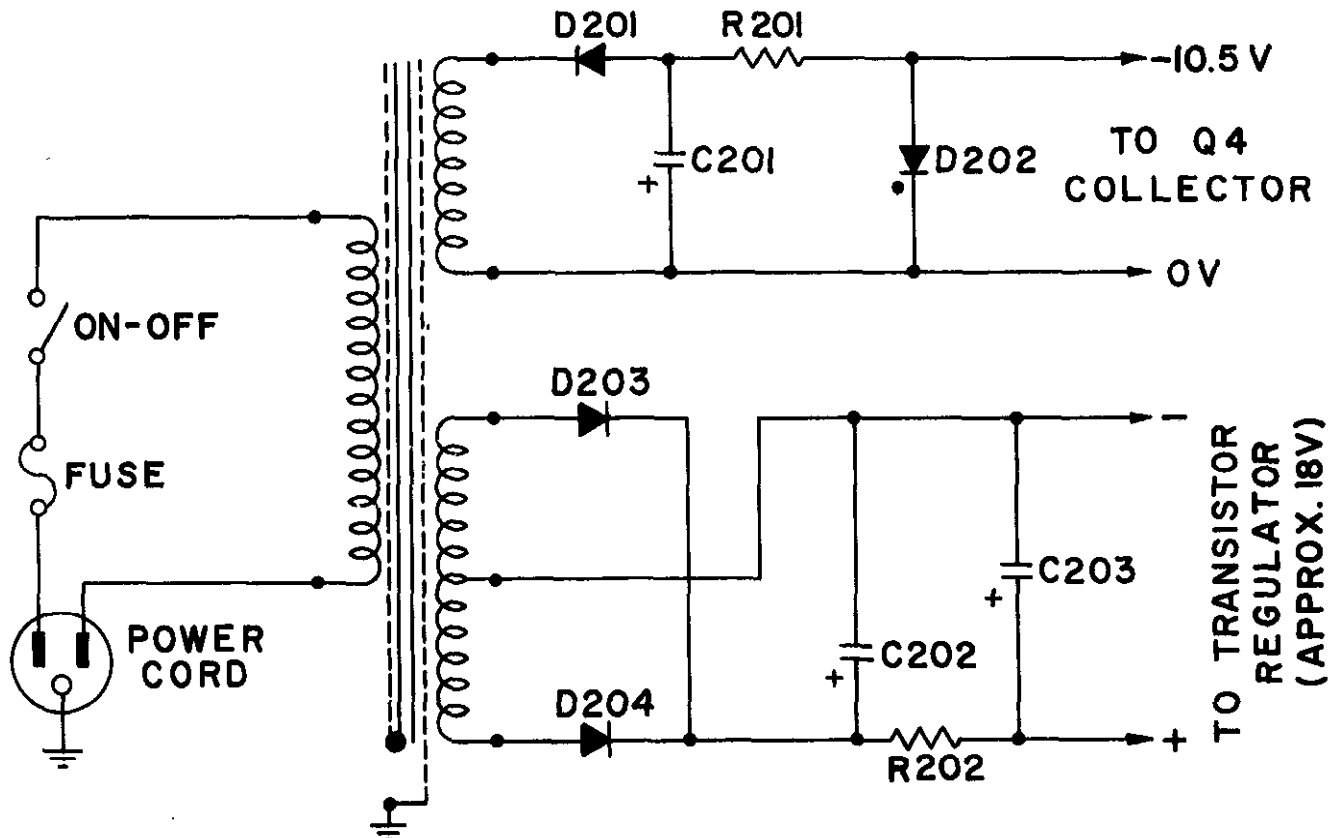

Figure 8. Power Supply Schematic Diagram
3-1. POWER SUPPLY: (Fig. 8) The power supply consists of three parts:
- a. THE AC POWER TRANSFORMER AND FILTER RECTIFIER CIRCUITRY (Figure 8): Set the RANGE SWITCH to the 3 milliohm position with ZERO OPERATE switch in ZERO position. Remove transistor Q-1 from the circuit and measure the voltage across C203. (See schematic notes for recommended type VTVM). If approximately 25 volts dc is indicated, this portion of the circuit is in proper working order. Note that neither terminal of C203 is grounded.